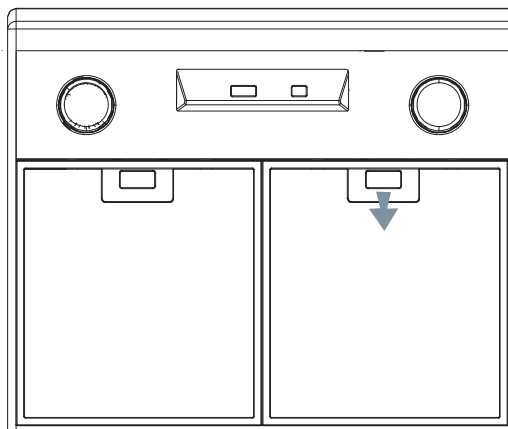

Fig 3
**Removing Aluminum Mesh Filters (Fig 3)**